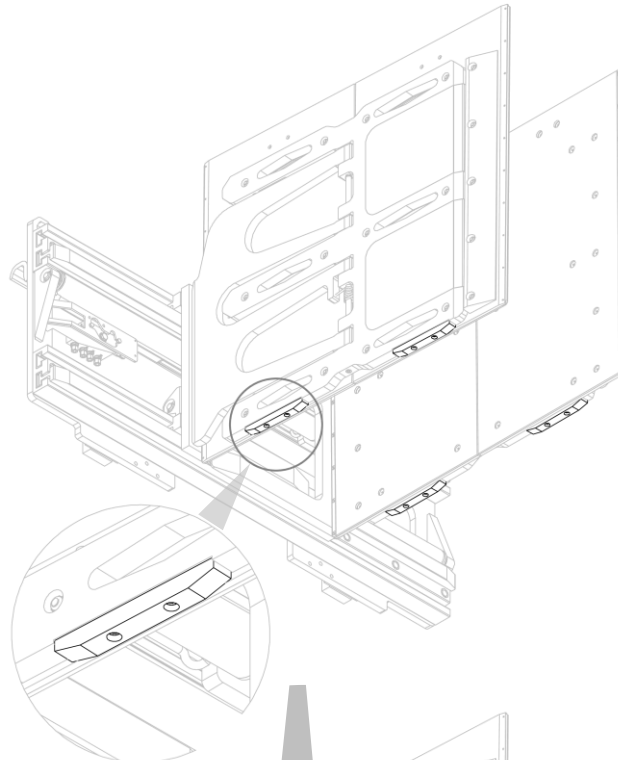
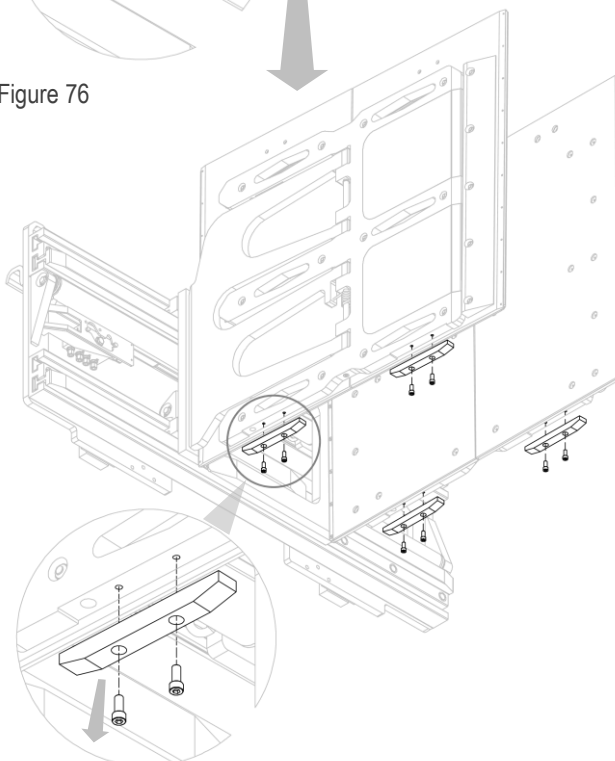

Figure 76
Figure 77
2. Remove the lower Ertalon anti-slip pads after removing the screws (see *Figure 76* and *Figure 77*).